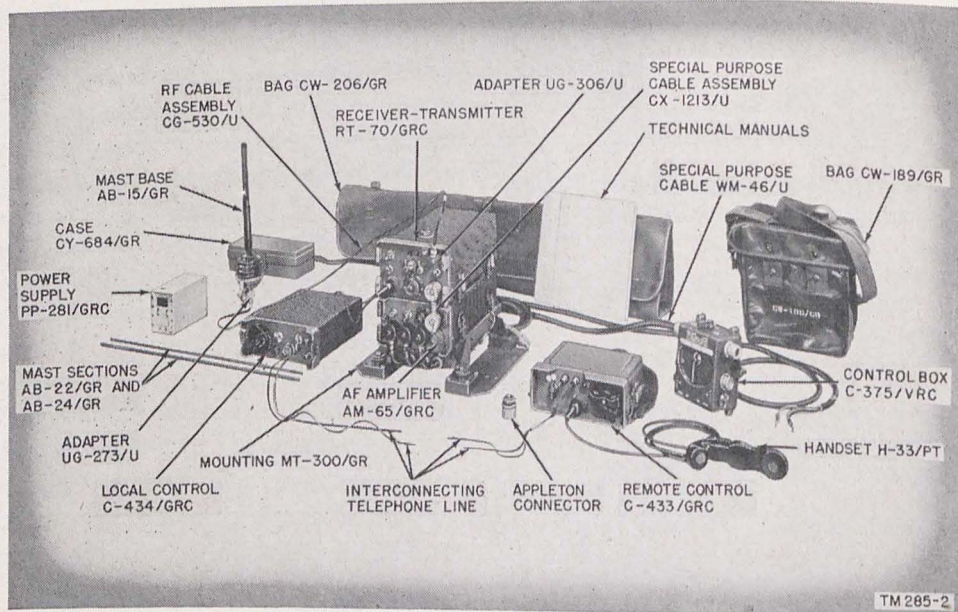

Figure 3. Components of Radio Set AN/VRC-7.
antenna system, and interconnecting cables (fig. 3). The nomenclature outlined in paragraph 2 and the listing of components (table I) will help in the understanding of the following description. The system cordage diagram (fig. 24), which is essentially an outline illustration of the set, also is helpful in understanding the cabling of the system.
d. Mechanically the interphone amplifier is a panel-chassis assembly inclosed in a metal case. Channel rails on the bottom of the case permit the unit to be installed on Mounting MT-300/GR; hooks on the case accommodate the snap catches of Receiver-Transmitter RT-70/GRC, which normally mounts on top of the amplifier in a vehicular installation (fig. 3). When the case is removed (fig. 40), all replaceable parts are accessible.
a. The following minor components are illustrated in figure 3:
- (1) Mast Base AB-15/GR.
- (2) Mast Sections AB-24/GR and AB-22/GR.
- (3) Adapters UG-273/U and UG-306/U.
- (4) Special Purpose Cable Assembly CX-1213/U.
- (5) RF Cable Assembly CG-530/U (4'2").
- (6) Special Purpose Cable WM-46/U.
- (7) Bag CW-206/GR.
- (8) Case CY-684/GR.
- (9) Connector and bondnut, Appleton Electrical Company No. 61007 and BL-50.